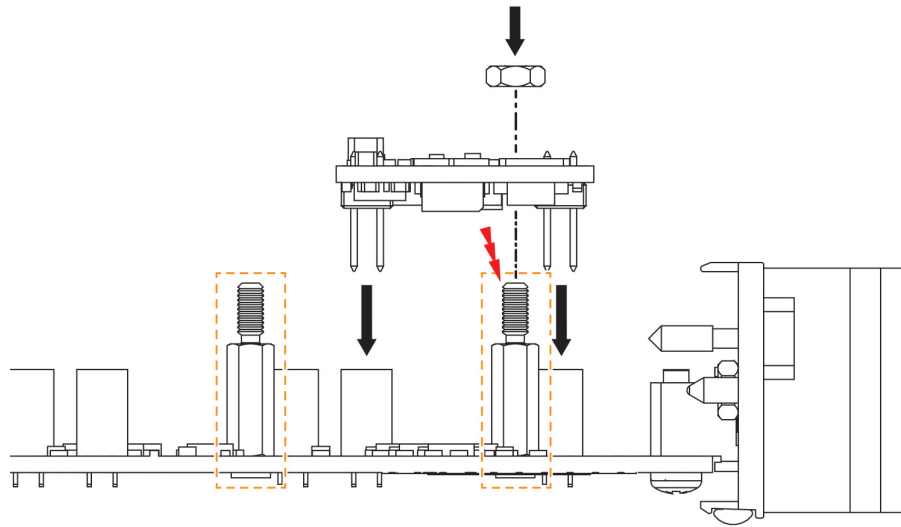

Fig. 2-4 Side View of the Assembly of a PB5385RES.1-A Resistor Cascade Piggyback
1. Align the Resistor Cascade Module to the relevant guide pin (orange-dashed rectangles in Fig. 2-4) of every slot of the ES5385.1 Carrier Board for Resistor Cascade.
Ensure that the mechanical stress on all components is as low as possible. Only tighten the nuts gently (approx. 0.3 Nm). Make sure that the guide bolt does not touch electronic components and does not cause any mechanical stress when assembling the PB5385RES.1-A (indicated by a red flash in Fig. 2-4).